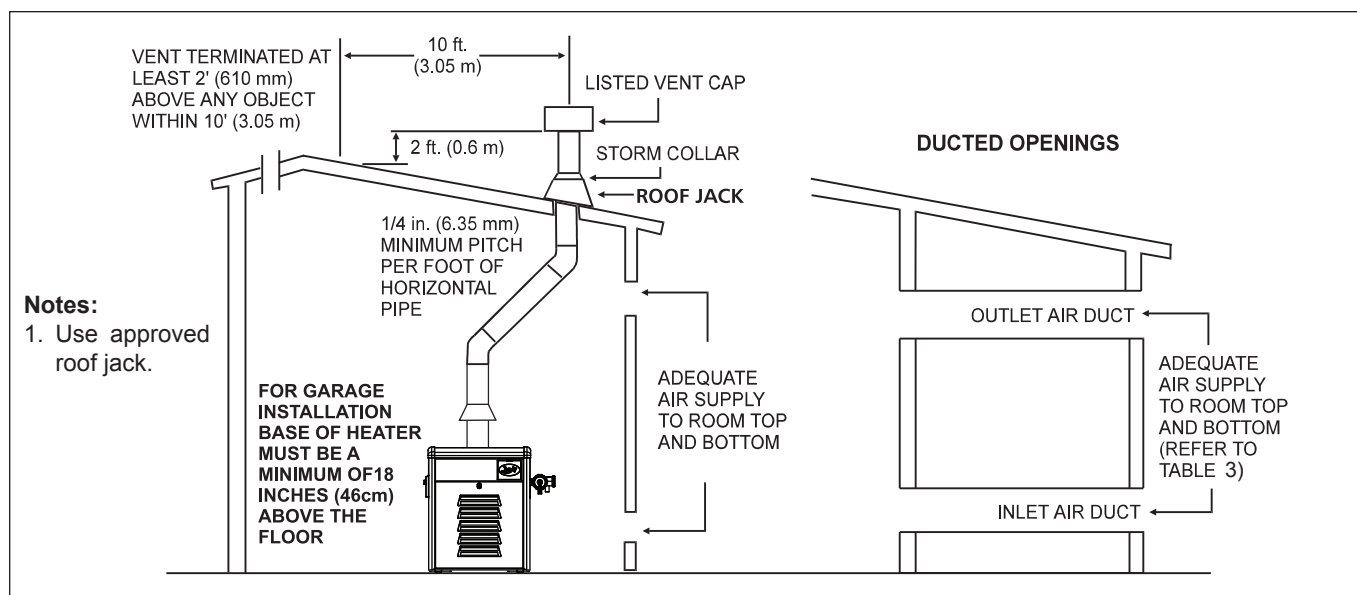

Figure 5. Indoor Installation Venting (USA), or Outdoor Shelter (Canada)
In general, these requirements specify that the room in which a heater is installed should be provided with two permanent air supply openings; one within 12 inches (305 mm) of the ceiling, the other within 12 inches (305 mm) of the floor. All indoor installations must have openings to outside air for combustion, ventilation, and dilution of flue gases from inside the building (see Figure 5 and Table 3). Zodiac Pool Systems, Inc., does not recommend indoor installations that do not provide combustion air from outside the building.
Outside Air Supply: When combustion air is supplied directly through an outside wall, each opening should have a minimum free area of one square inch per 4,000 BTU/h (1.2kW) input of the total input rating of all appliances in the enclosed area. If air is provided through horizontal ducts, each opening and duct must provide one square inch of flow area for each 2000 BTU/h (0.6 kW). These requirements are summarized in Table 3. Note that the areas specified are net free areas and should be increased when the openings are covered by screens, louvers, grills or other protective covers (see Figure 5 and Table 3 notes).
The draft hood outlet is to be connected to an unobstructed vent pipe of the same diameter, terminating outside the building. The vent must terminate at least two (2) feet (0.6 m) above the highest point of the roof or other object that is within ten (10) feet (3.0 m) of the vent termination. The vent pipe must have a listed vent cap which allows a full equivalent opening for flue products (see Figure 5). The top of the vent cap must be at least five feet in vertical height above the draft hood outlet.